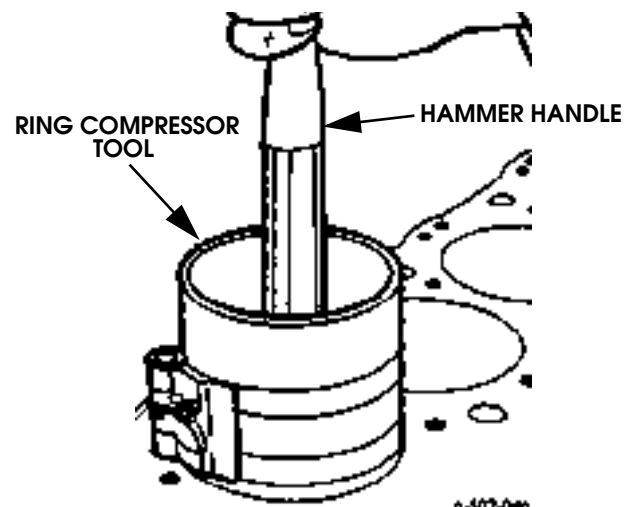

Figure 2-161: Piston Installation
5. Compress piston rings on #1 piston with compressor tool (Figure 2-161).
8. Press piston downward into cylinder with hammer handle (Figure 2-161). Guide rod end onto crankshaft journal at same time.